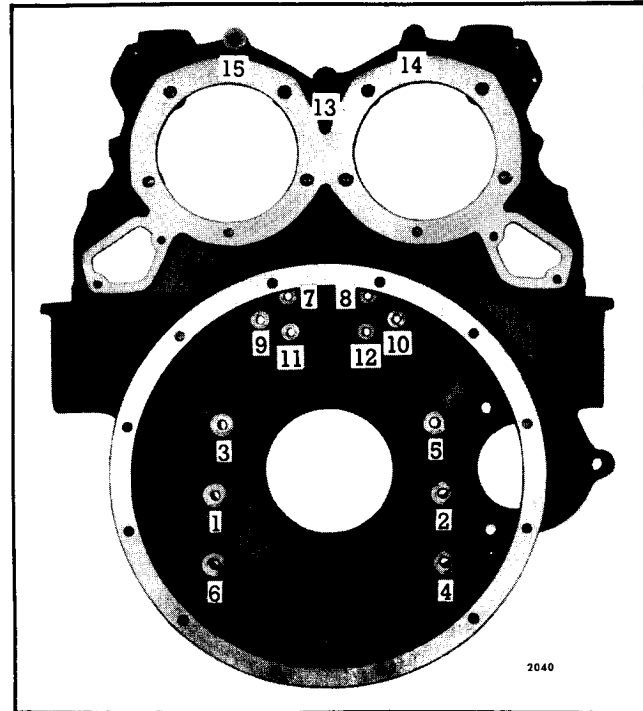

Fig. 6 - Flywheel Housing Bolt Tightening Sequence (Operation 2)--In-Line Engine
9. Refer to Fig. 6 for the final bolt tightening